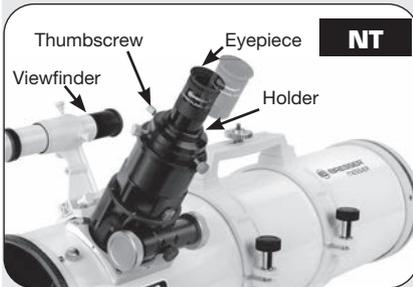

Fig. 10a: Insert eyepiece into holder and tighten thumbscrews.
10. Insert the eyepiece: NT models (Fig. 10a): Lift to remove the dust cap from the eyepiece holder on the focuser assembly. Set the dust cap aside in a safe place and replace it when you have finished observing to protect the eyepiece assembly. Back off the eyepiece thumbscrews (1, Fig. 1a) and insert the supplied 25mm eyepiece (3, Fig. 1a) into the the eyepiece holder. Tighten the holder thumbscrews to a firm feel to secure the eyepiece. AR models (Abb. 10b): Lift to remove the dust cap from the eyepiece holder on the focuser assembly. Set the dust cap aside in a safe place and replace it when you have finished observing to protect the eyepiece assembly. Back off the eyepiece thumbscrews (1, Fig. 1b) and slide the diagonal prism into the holder and tighten the thumbscrews to a firm feel only. Insert the supplied 25mm eyepiece (3, Fig. 1b) into the the diagonal prism. Tighten the prism's thumbscrews to a firm feel to secure the eyepiece.